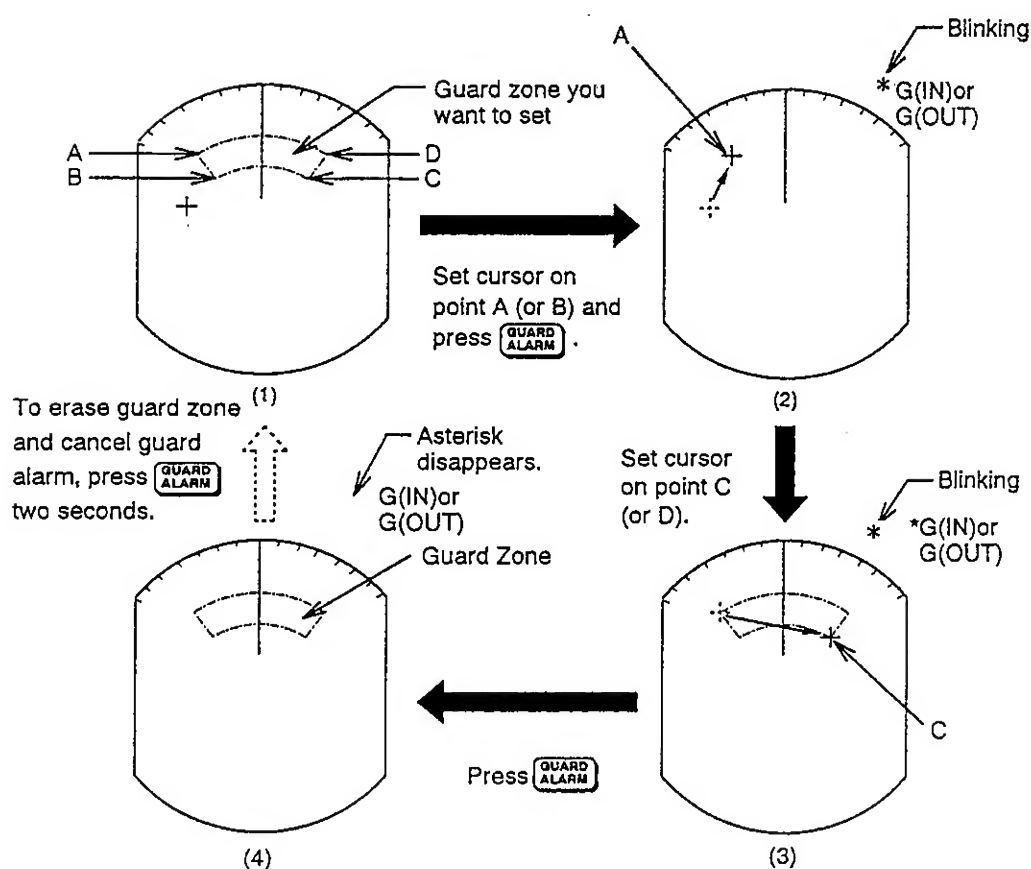

Figure 1-18 How to set the guard zone
- 2) Operate the trackball to set the cursor on point A or B. Press the **GUARD ALARM** key. "\*G (IN)" or "\*G (OUT)," with asterisk blinking, appears at the top right-hand corner of the display. See Figure 1-18 (2). (The asterisk indicates the guard zone is partially set.)
- 3) Operate the trackball to set the cursor on point C or D. See Figure 1-18 (3).
- 4) Press the **GUARD ALARM** key. The asterisk disappears. See Figure 1-18 (4).